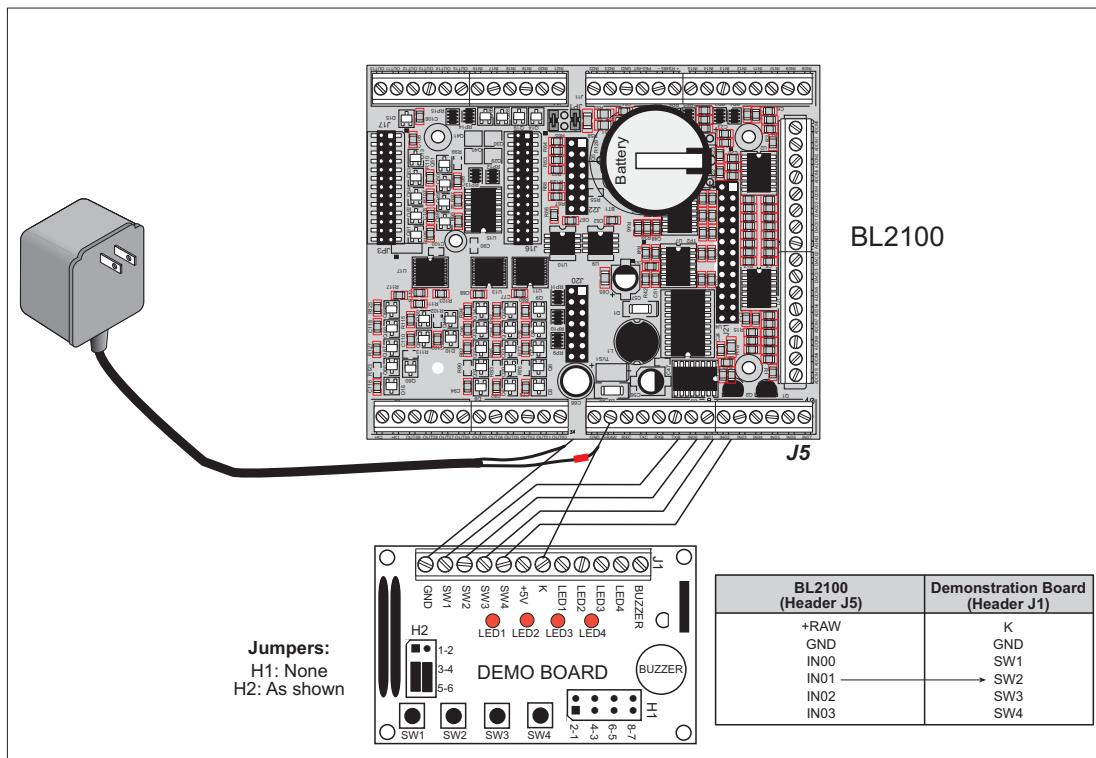
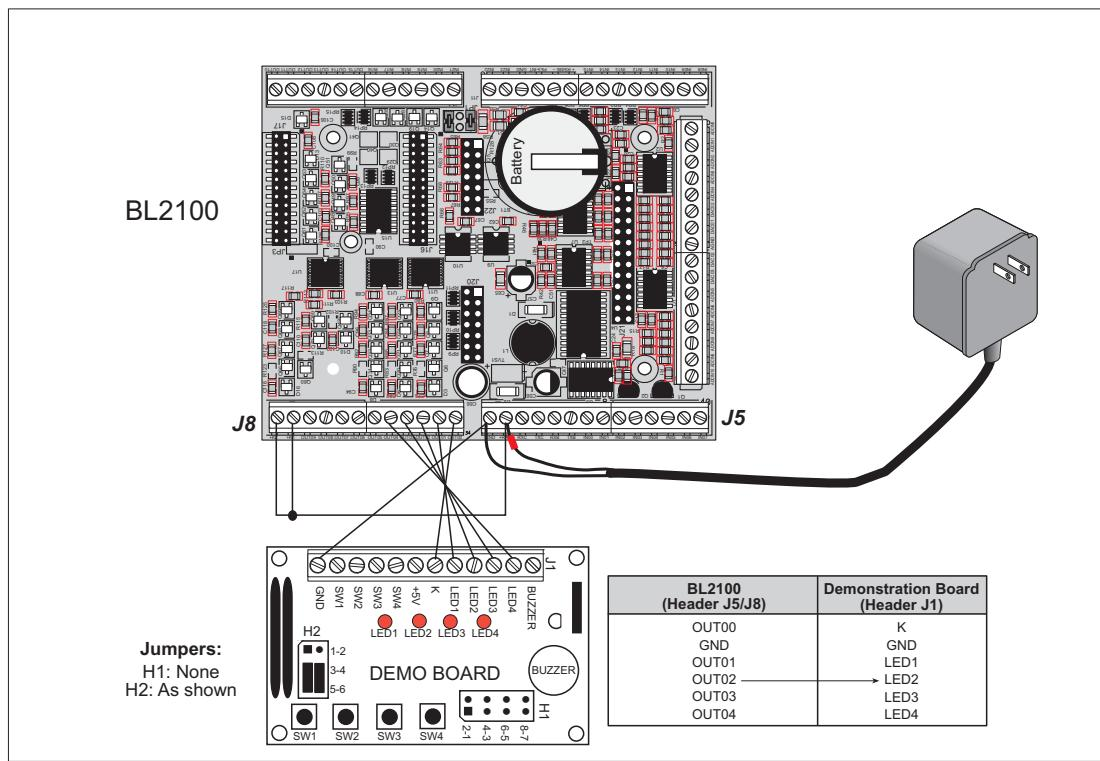
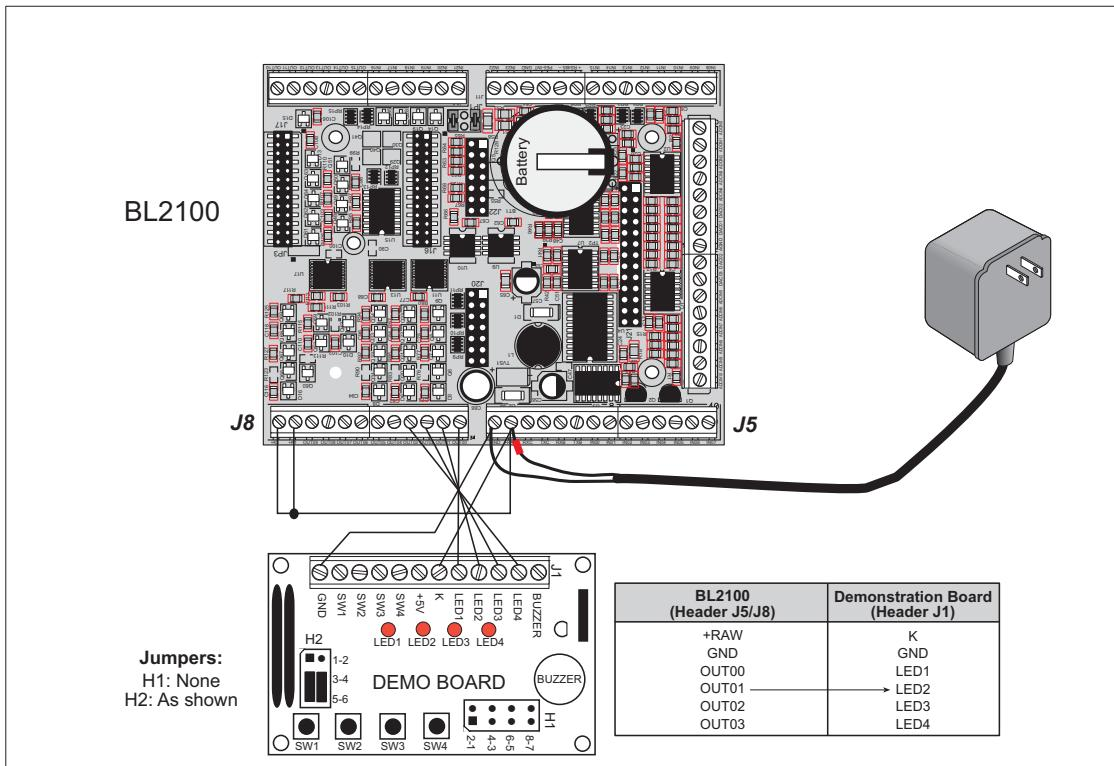

Figure E-1. General Digital Input Connections Between BL2100 and Demonstration Board
Figure E-2. Digital Output Connections Between BL2100 and Demonstration Board
Figure E-3. SSI.C Connections Between BL2100 and Demonstration Board
1. Use the wires included in the BL2100 Tool Kit to connect header J1 on the Demonstration Board to screw-terminal headers J5 and J8 on the BL2100. The connections are shown in Figure E-1 for sample program **DIGIN.C** and for sample program **SMTB.C**, in Figure E-2 for sample program **DIGOUT.C**, and in Figure E-3 for sample program **SSI.C**.
NOTE: +K1 and +K2 on screw-terminal header J8 must be connected to +RAW on screw-terminal header J5 as shown in Figure E-2.
NOTE: +K1 and +K2 on screw-terminal header J8 must be connected to +RAW on screw-terminal header J5 as shown in Figure E-3.